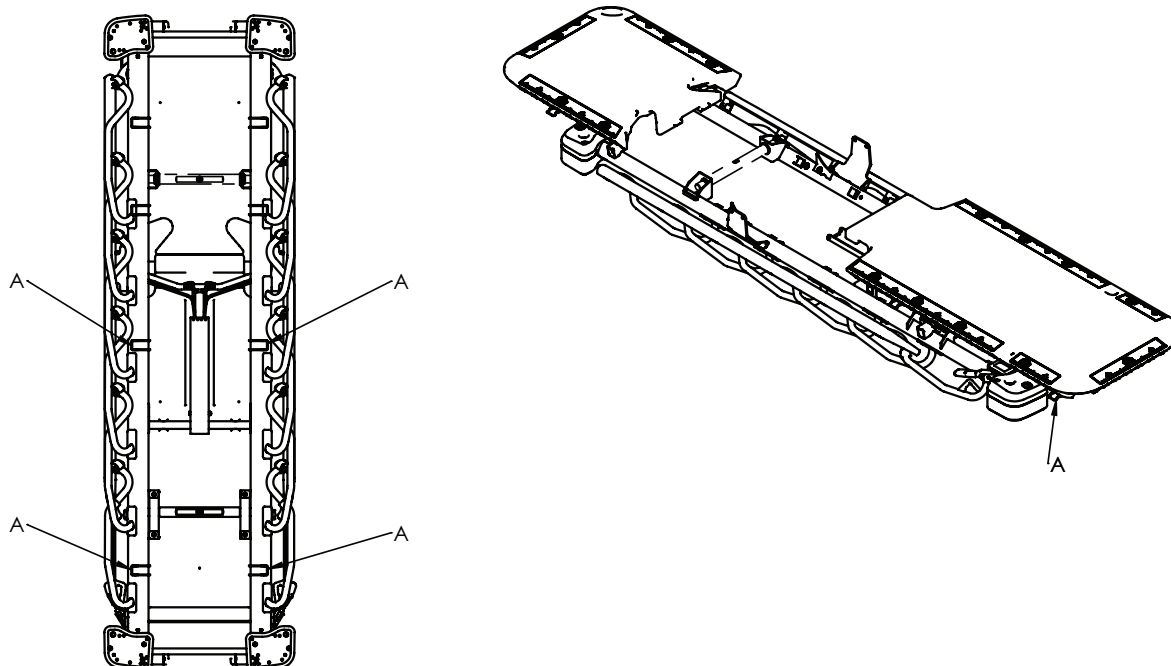

Figure 17 – X-ray cassette panel replacement - foot end
6. From below the litter frame, use your hand to unclip the four spring clips (A) that secure the foot end X-ray cassette panel to the litter frame (Figure 17).